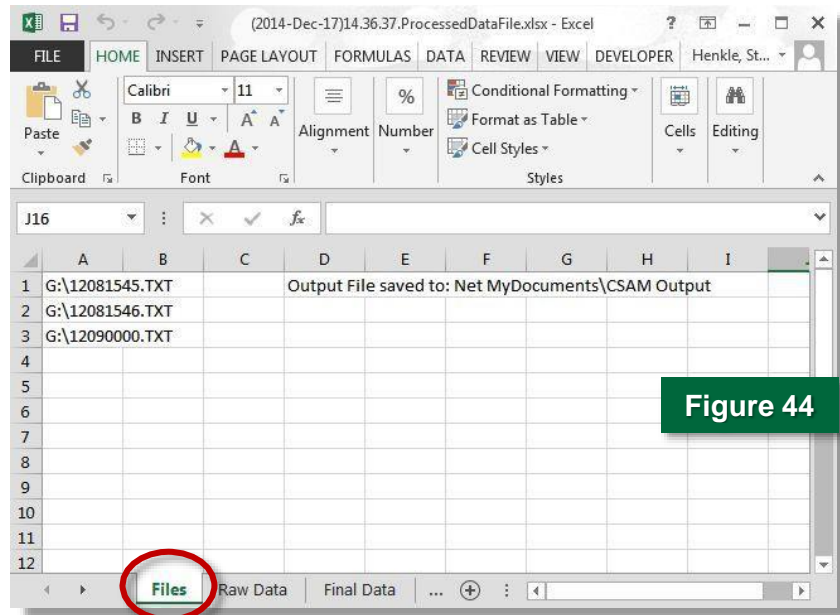

Figure 44
- ❖ The **Files** tab (Figure 44) lists the data text files, in order by date and time created by the CSAM, that were selected to be processed. This tab also shows where the newly created spreadsheet was saved, i.e., **Net My Documents\CSAM Output**.